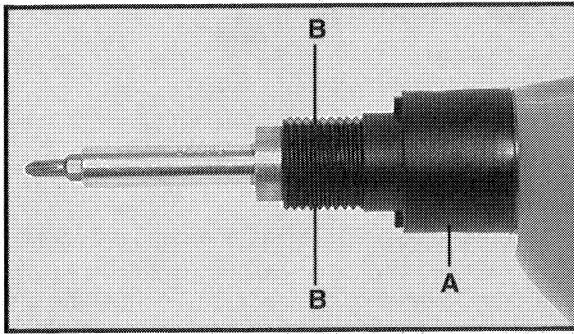

Fig. 6
Periodically, depending on use, screwdriver clutch jaws should be inspected for wear. This may be done by removing the screwdriver mechanism housing (A), Fig. 6, from the power unit.
**NOTES:** The clutch housing is attached to the power unit with **left-hand** threads. The depth stop assembly may be removed from the clutch housing to expose a set of wrenching "flats" (B), Fig. 6, on the clutch housing. These "flats" permit the use of a wrench to aid in clutch housing removal.